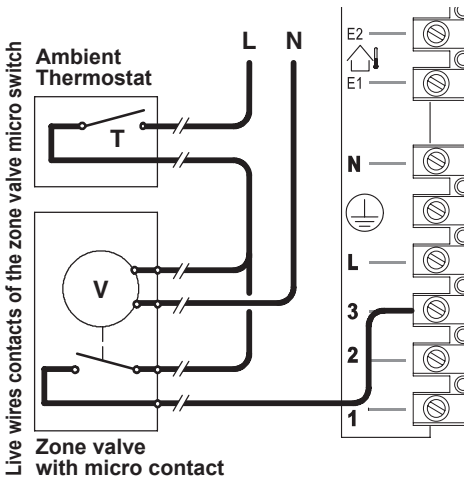

Fig. 6.23
If the Ambient Thermostat is connected with live wires (Fig. 6.23) may lead dangerous voltage inside the appliance as well. Ensure they are isolated. In case of doubt turn off the general system switch.
**If the external control is connected with live wires (Fig. 6.23) may lead dangerous voltage inside the appliance as well. Ensure they are isolated. In case of doubt turn off the general system switch.**